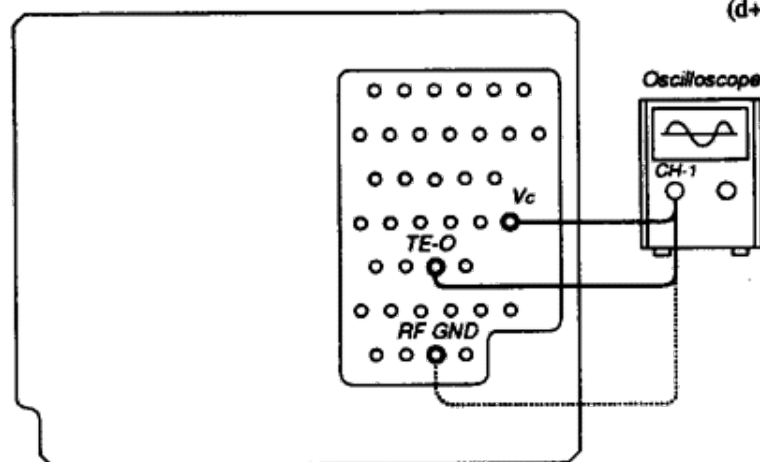

Fig. 5-2-6 Tracking Offset Adjustment
- a. Connect the oscilloscope probe to Vc (AP1013) on the Pin board. Normally DC voltage of 1.75V (Vc) is obtained from Vc (AP1013). (Refer to Fig. 5-2-6)
- c.-2 Connect the oscilloscope probe the TE-O (AP5060) on the Pin board. (Refer to Fig. 5-2-6)